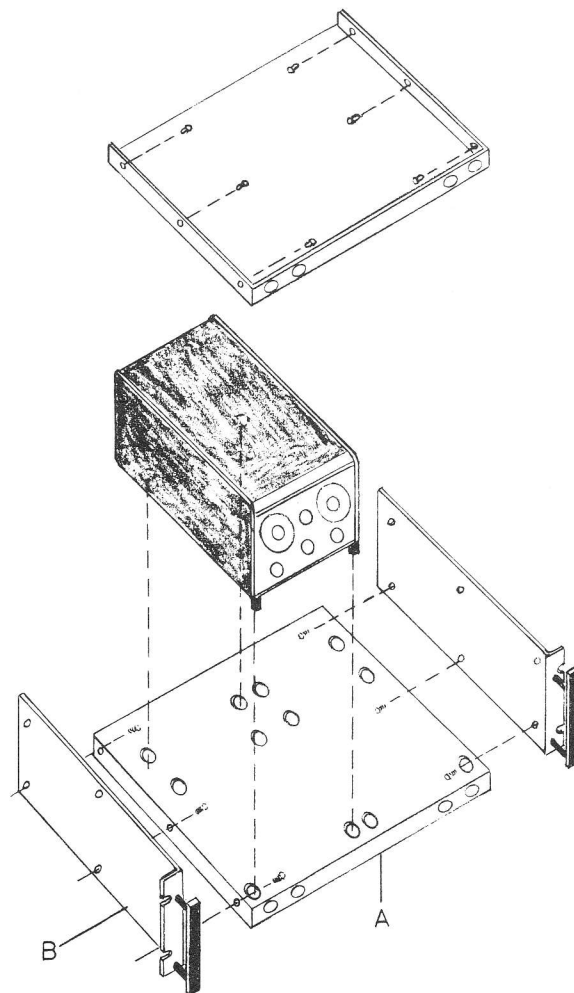

Figure 2-2. K-104 Rack Mounting
- d. Rack Mount Kit — K104. Mounts one or two instruments in a 7 inch space. See Figure 2-2.
2.1.5 K-104 Rack Mounting Kit (Refer to Figure 2-2)